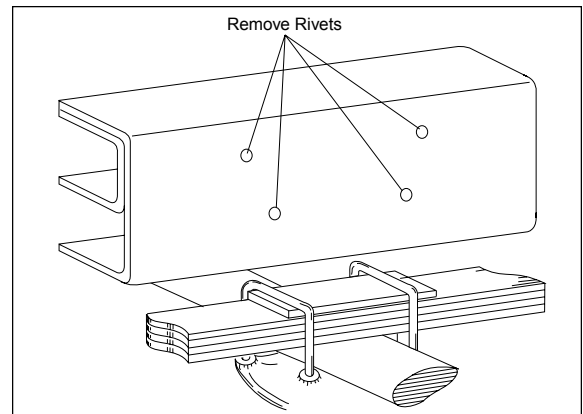

Figure 4
2. Remove the jounce bumper bracket from the side of the frame. Drive the rivets out of the holes that are in the frame (Figure 4). CAUTION: There are lines on the inside of the frame on the passenger's (right) side. Use extreme caution to avoid damaging these lines in any way during the removal process.